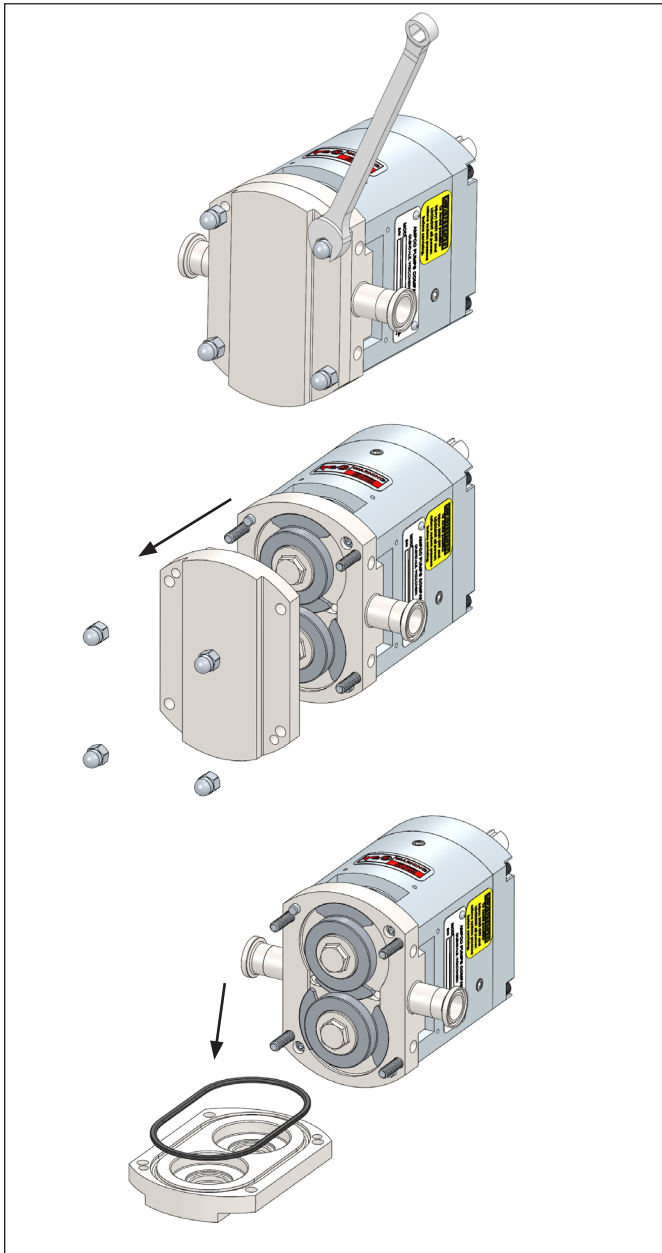

Figure 23. Removing ZP4 Cover
1. Start by removing the cover nuts using an appropriate wrench (Figure 23). During disassembly place all parts on a clean, protected surface with finished surfaces and seal faces facing up. Tap the cover off using a soft mallet. Remove the cover o-ring and inspect.